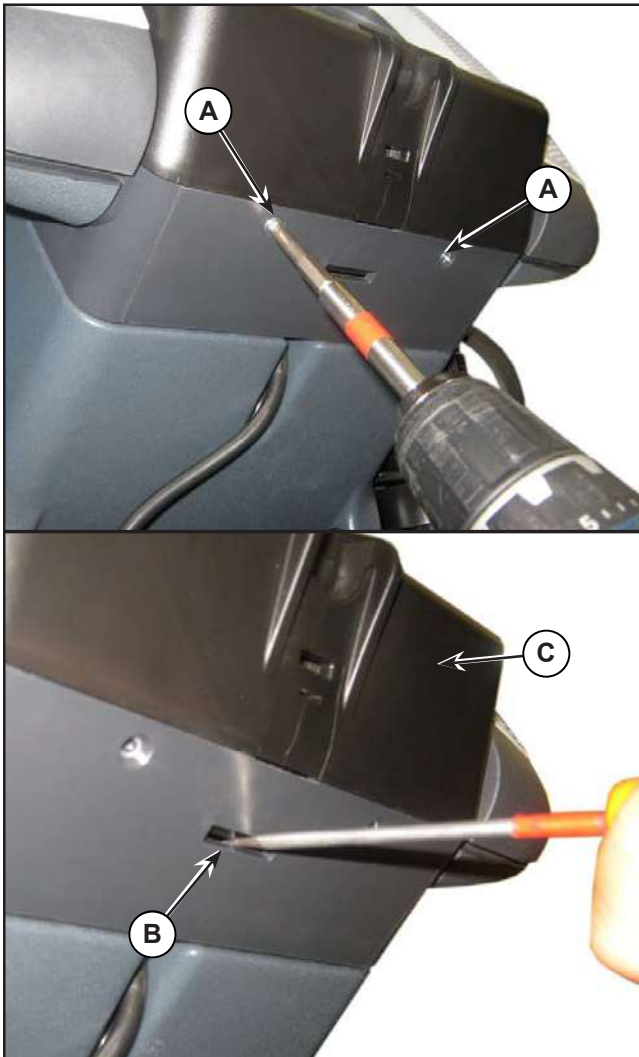

Figure 15:
4. Unscrew the 2 screws (A) (Figure 15).
5. Release the retaining tab (B), then lift up and remove the Main machine controller cover (C).